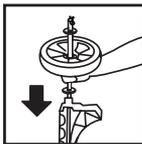

FIGURE 7
8. Slide on one washer. Slide remaining wheel, then washer onto axle end. **FIGURE 7.**